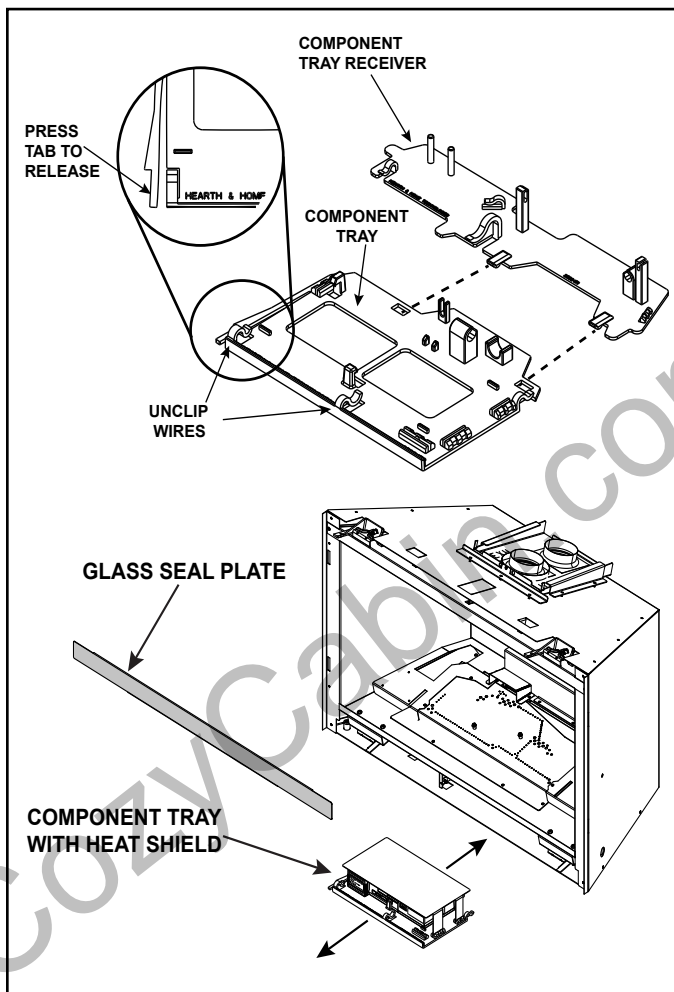

Figure 2 Component Tray
4. To access controls, press component tray tab and slide component tray out. See Figure 2.
Note: Wires may need to be removed from clips for full access. See Figure 2.